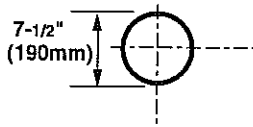

Fig. 27
NON-COMBUSTIBLE WALLS (Fig. 27): Hole opening must be 7.5" (190 mm) in diameter.
1. Establish vent hole through the wall. See page 14, Fig. 27.